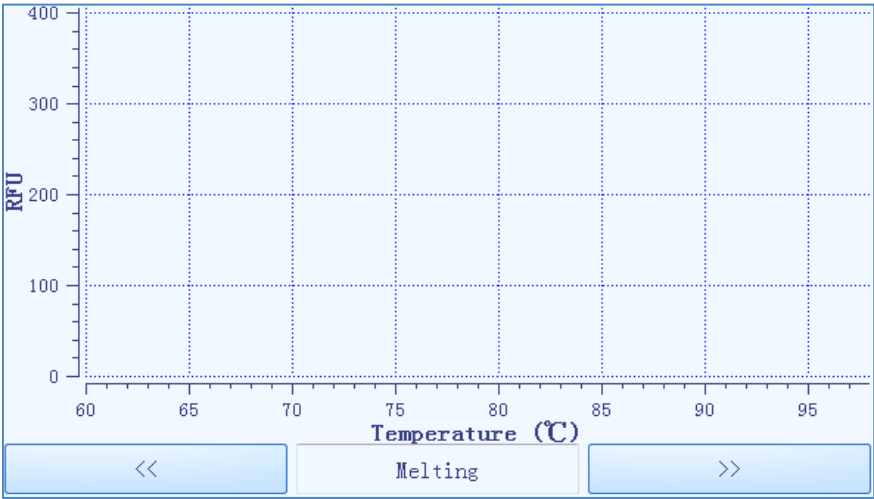

Figure E-4.2 Run Monitoring Diagram - Real-time Melting Curve
- b. User can press  key below the run monitoring diagram to monitor the real-time **Melting** curve of the current experiment, as shown in figure E-4.2.